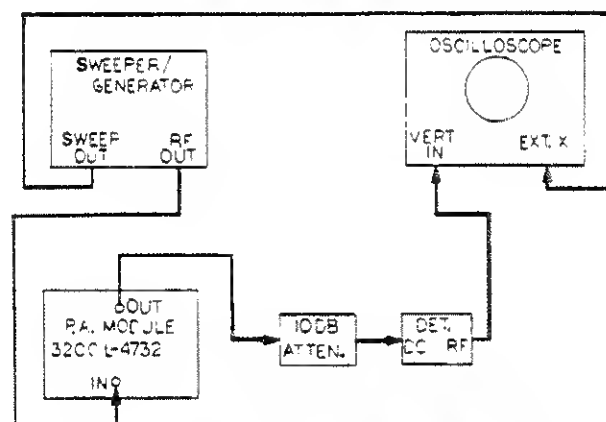

Figure 6-1. Low Power Sweep Test Set-Up
- a. Set-Up the test equipment as shown in Figure 6-1.
- h. Reconnect the power amplifier module under test per figure 6-1.